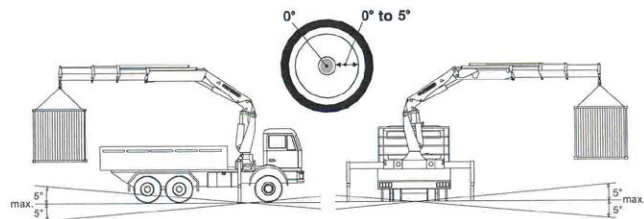

Figure 7.4: Level truck within manufacturer's specifications
- Set up truck level, within allowable range specified by manufacturer (Figure 7.4).